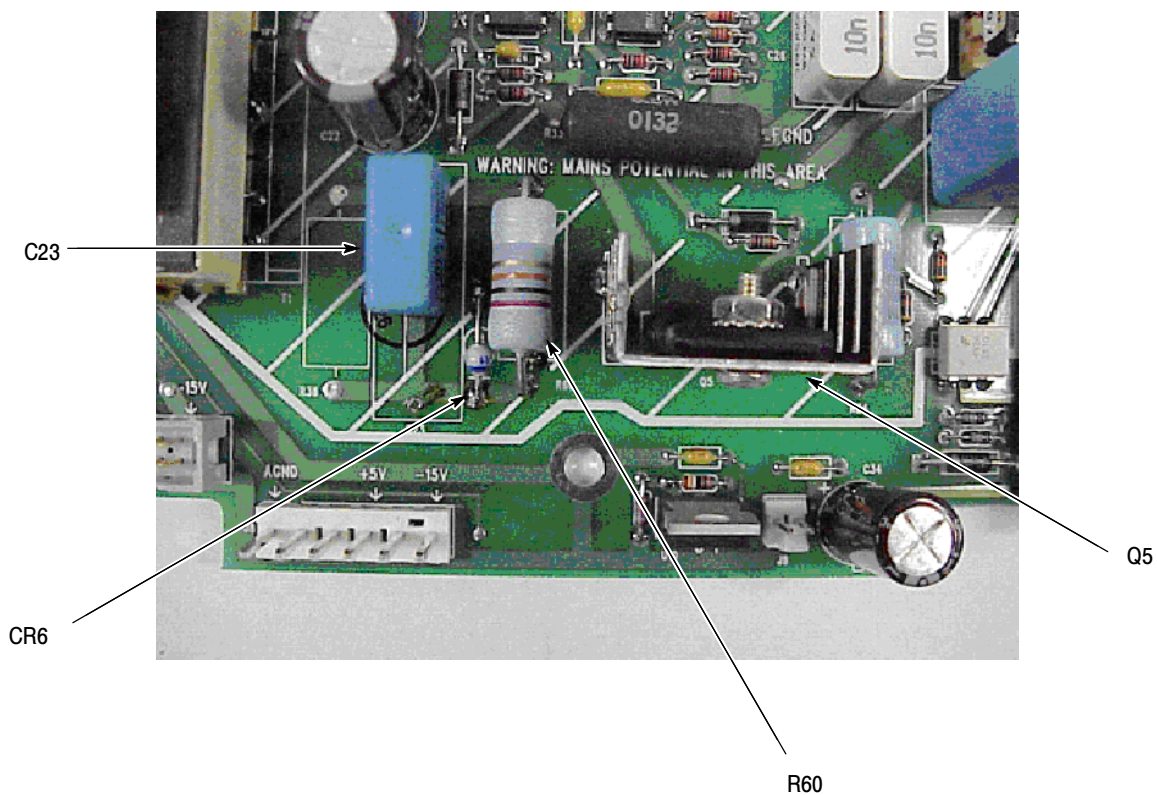

Figure 4: Location of parts on circuit board
4. Install the resistor 305-0203-00 (20 k Ω) at location R60. See Figure 4.
5. Install the diode 152-1085-00 at location CR6. See Figure 4.
6. Install the capacitor 285-1413-00 at location C23. See Figure 4.